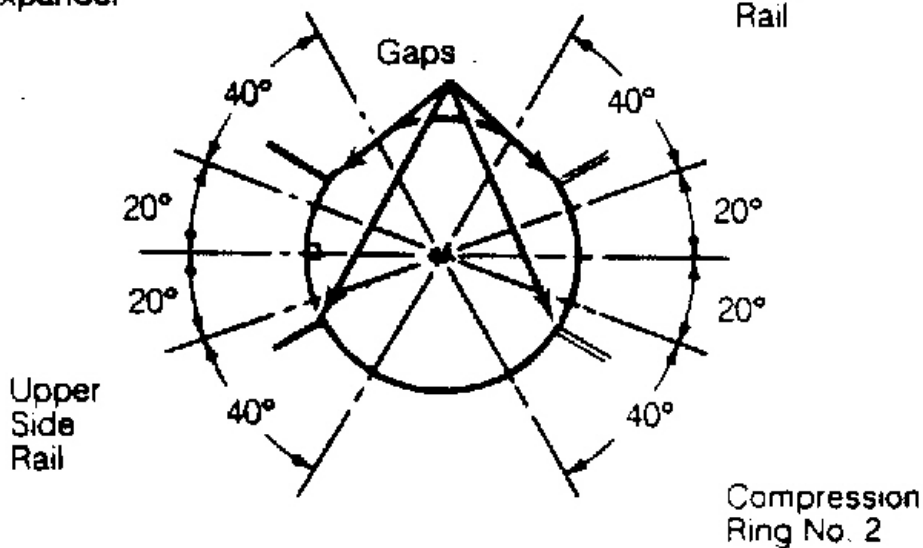

Fig. 5: Correct Piston Ring Gap Arrangement
Lubricate piston, cylinder and journal with clean engine oil. Position rings, and install ring compressor. See **Fig. 5**. Stamped mark on ring must face upward. Install piston/rod assembly in proper position with notch on piston top facing forward.
2. Position rings on piston with code marks facing up. Position ring end gaps correctly. See **Fig. 5**.